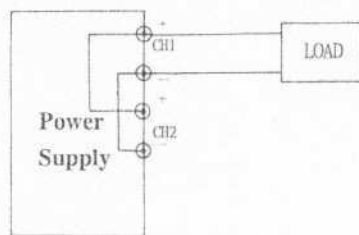

Fig. 5-5 Parallel Tracking Operation
G. Connect the negative polarity of the device being powered to the black (-) terminal of the CH1 power supply. The configuration is shown as Fig. 5-5: